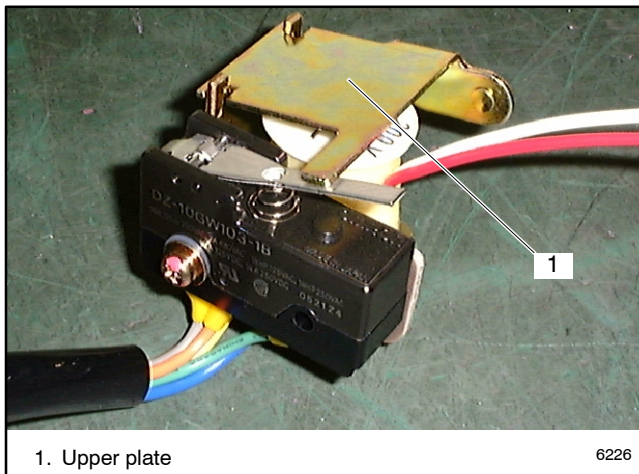

Figure 8-20 Select Coil Assembly
3. Remove the upper plate from the select coil assembly. See Figure 8-20.